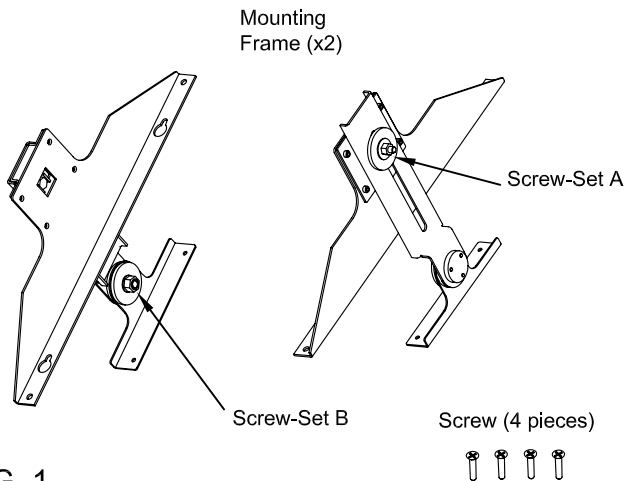

FIG. 1
Check the components in the package, see FIG 1.
5. Refer to Fig 1, the Screw-Set-A is adjustable for monitor sliding back and forth. Screw-Set-B is adjustable for monitor tilting.